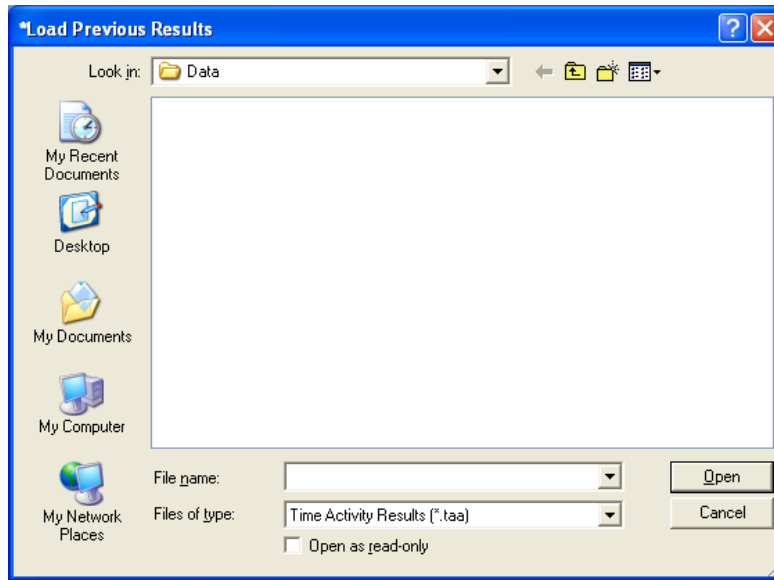

Figure 12-11
1. Click the  button on the menu bar or press *Alt+O* on Figure 12-1 Time Activity Analysis screen. The screen appears as shown in Figure 12-11.